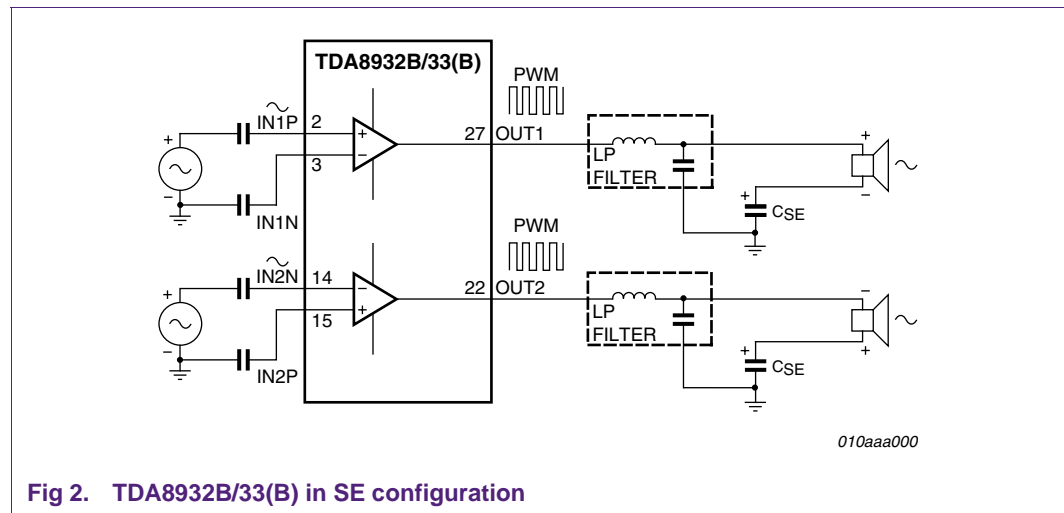

Fig 2. TDA8932B/33(B) in SE configuration
The TDA8932B/33(B) device is a closed loop fixed frequency pulse width modulated Class-D amplifier with two differential analog inputs, each driving an independent power stage (see Figure 2). The power stage consists out of a low side and a high side N-channel MOSFET.